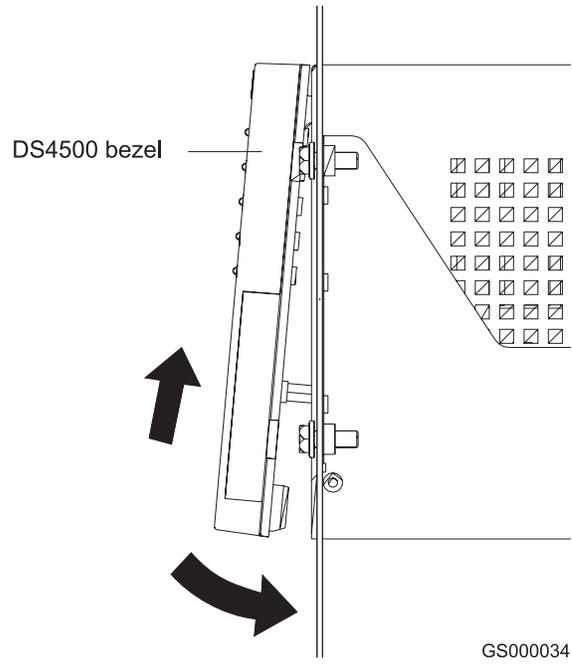

Figure 28. Replacing the front bezel
2. Push the bottom of the bezel until the pins snap into the mounting holes, as shown in Figure 28 on page 45.